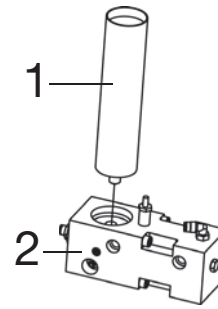

Fig. 7-39 1 Lubricant cartridge
- Screw an original lubricant cartridge (1, Fig. 7-39) into the grease pump (2, Fig. 7-39).